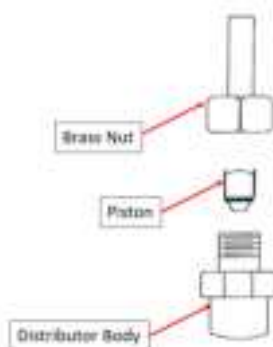

Figure 4: Piston (to be removed)
- 2) Remove piston/orifice from inside of distributor body and discard. See figure 4.